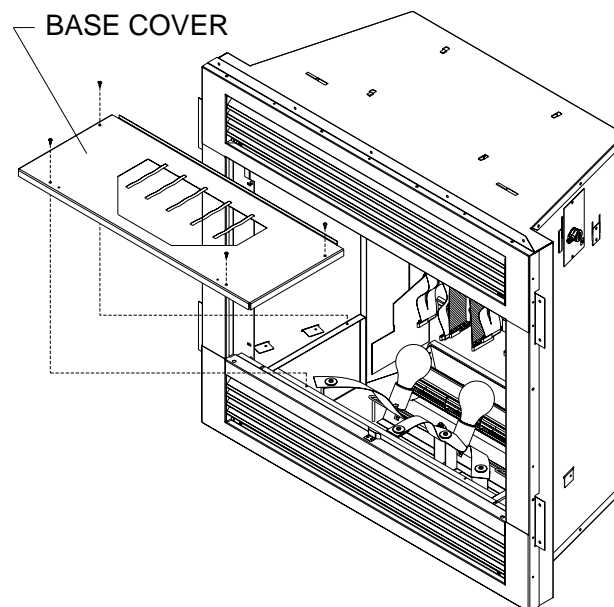

Figure 36 – Removing Base Cover
7. Remove 4 Phillips screws on base cover and lift the cover off the cabinet base. See **Figure 36**, page 16.